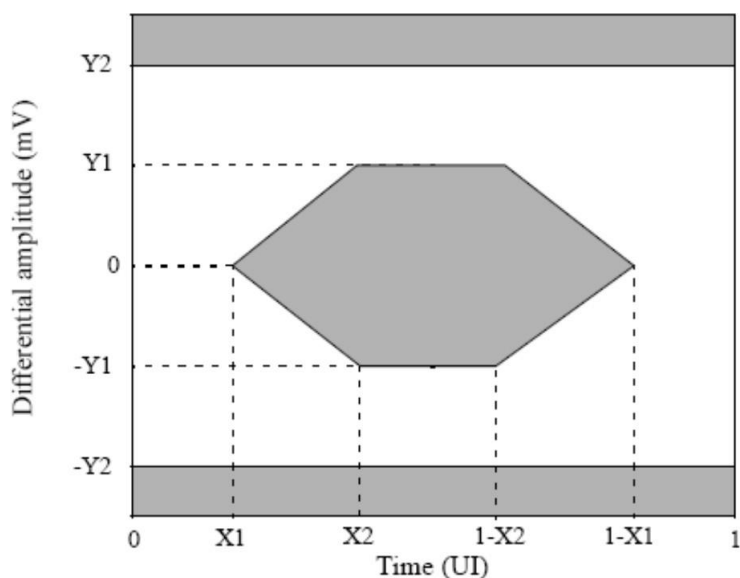

Figure 1
2. Hit ratio 5×10^{-5} . See Figure 1 for transmitter input eye mask definitions.